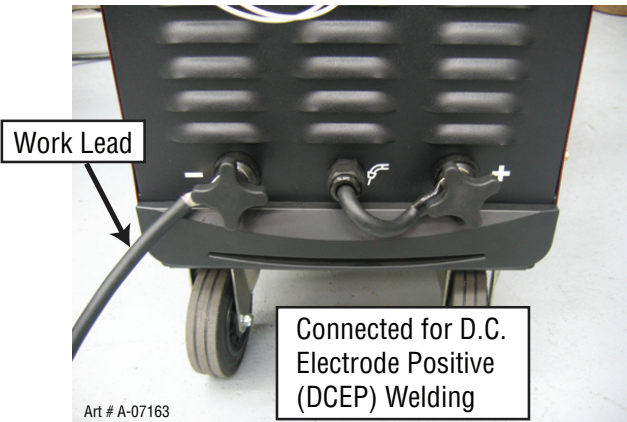

Figure 3-14: Polarity Connections for DCEP
- a. Locate the two terminal knobs at the front of the machine. Refer to Figures 3-14 and 3-15.
- c. Set up the desired lead polarity as per Table 3-3 and as shown in Figures 3-14 or 3-15.